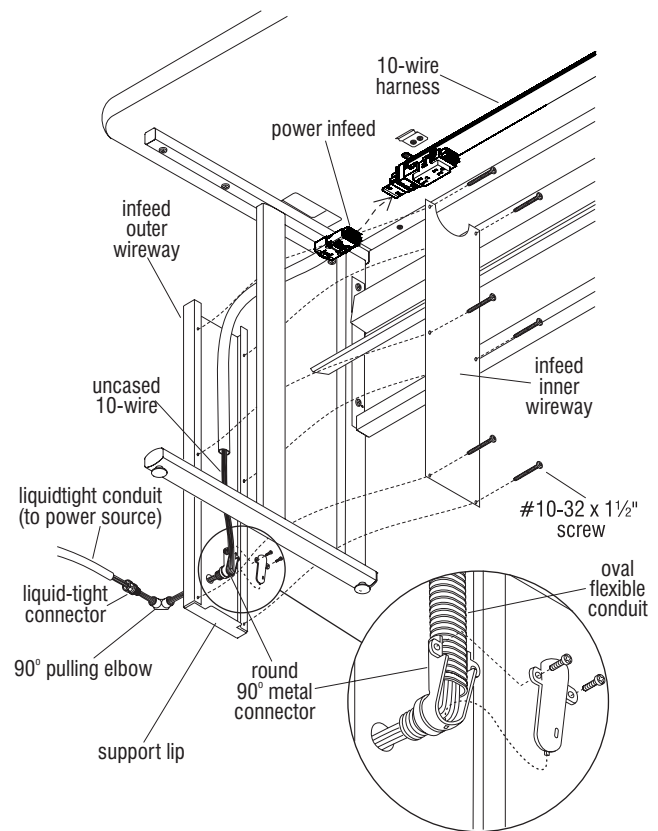

Figure 5
14. For 10-wire power infeed, position the flexible conduit between the vertical leg members and plug the power infeed connection into the 10-wire harness under the table. Route the uncased 10-wire through 90° metal connector and through the access hole of the infeed outer wireway. Lay the oval conduit flat (not on edge) into the bottom half of the round 90° metal connector. Assure the maximum amount of conduit is inside the fitting and connect the top half of the fitting to the bottom. Use screws supplied and assure that the two sections are properly connected, securely capturing the flexible oval conduit (Figure 5).
15. Route the uncased 10-wire through the 90° pulling elbow. Next screw or thread the 90° metal connector into the 90° pulling elbow, sandwiching the steel infeed panel. Slide the liquid-tight connector onto the 10-wires and connect it to the 90° pulling elbow (Figure 5)
16. Set the infeed outer wireway up against the outside of the vertical leg members with support lip resting on the foot of the leg. Position the infeed inner wire way up against the inside of the vertical leg members. Fasten infeed inner wireway to infeed outer wireway with six #10-32 x 1½" screws (Figure 5).
17. Determine the appropriate length for the liquid-tight conduit (to power source) and cut it to size. Slide the liquid-tight conduit onto the 10-wires and connect the conduit to the connector on the elbow. Finally the liquid-tight conduit may be fastened to a junction box (customer supplied) and the 10-wires can be cut to size and connected to the power source (Figure 5).